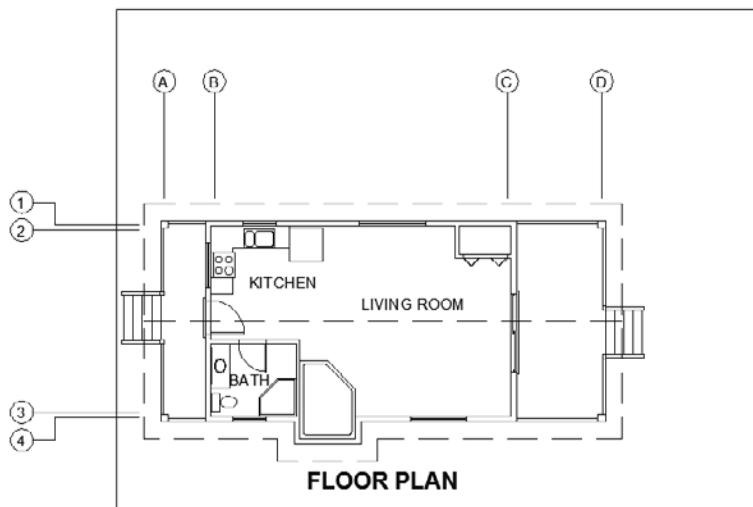

FIGURE 8.39 Zooming out to include the entire rectangle
4. Use Zoom Extents to zoom out until the entire rectangle is visible in the drawing area (see Figure 8.39).